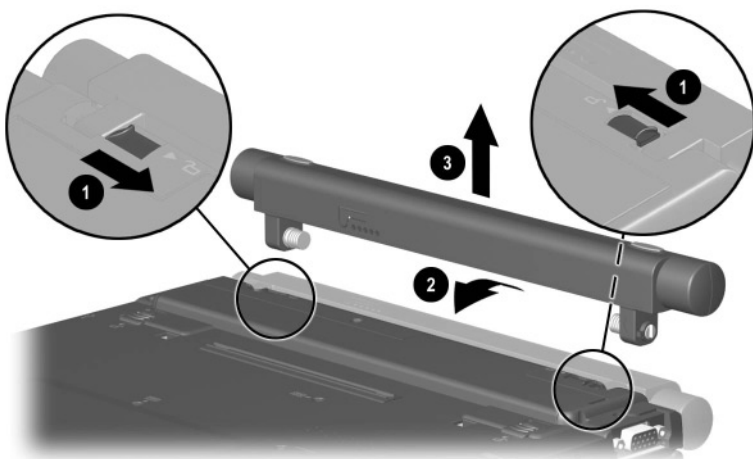

Figure 5-3. Removing the Optional External Battery Pack
- c. Slide the external battery release latches toward the inside of the notebook ❶ (Figure 5-3).
- d. Rotate the external battery pack 90 degrees toward the notebook ❷.
- e. Remove the battery pack from the notebook ❸.